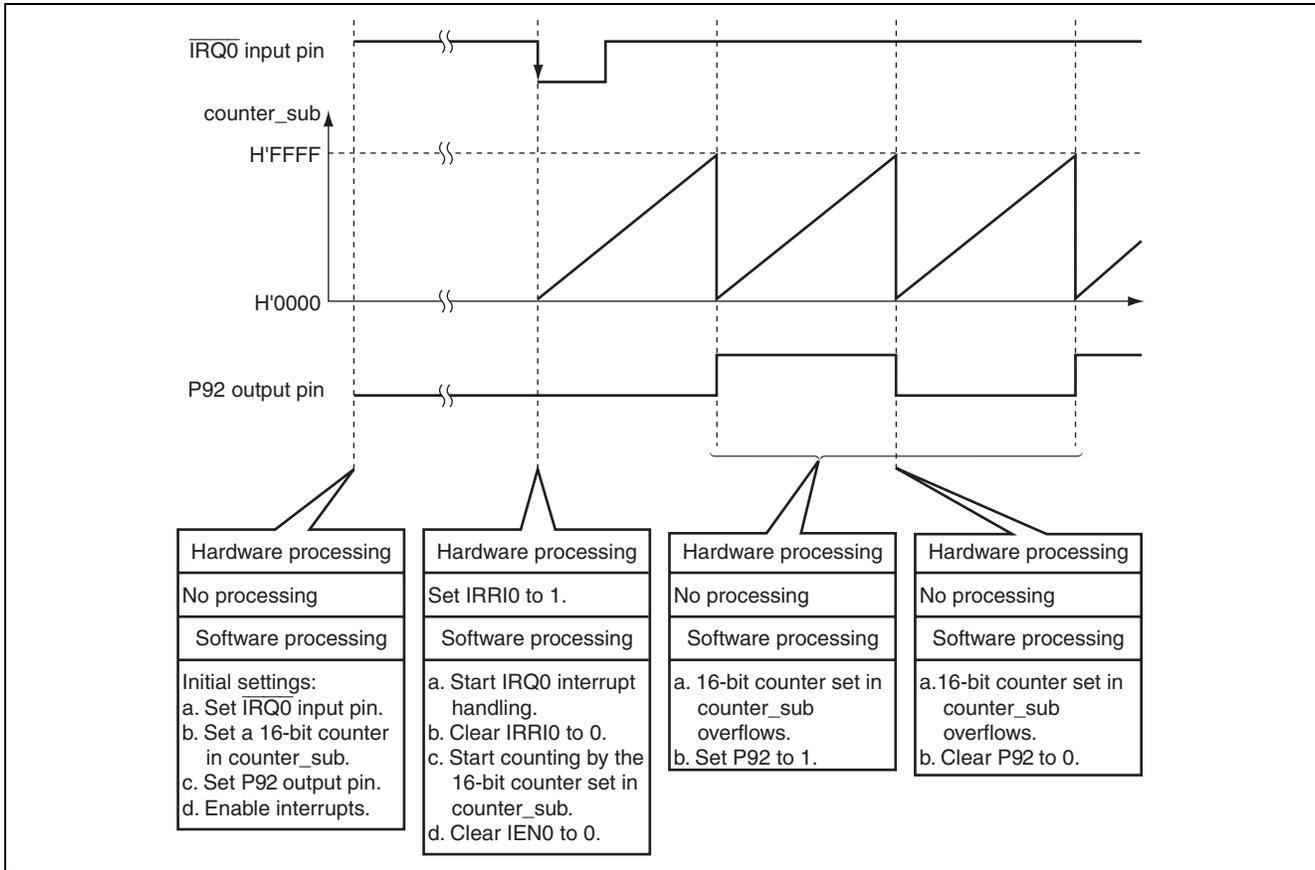

Figure 3.1 Operation Principle of Starting Counter Incrementation by External Interrupt
1. Figure 3.1 illustrates the operation of this sample task. Counting is started by an external interrupt through hardware and software processing as shown in the figure.